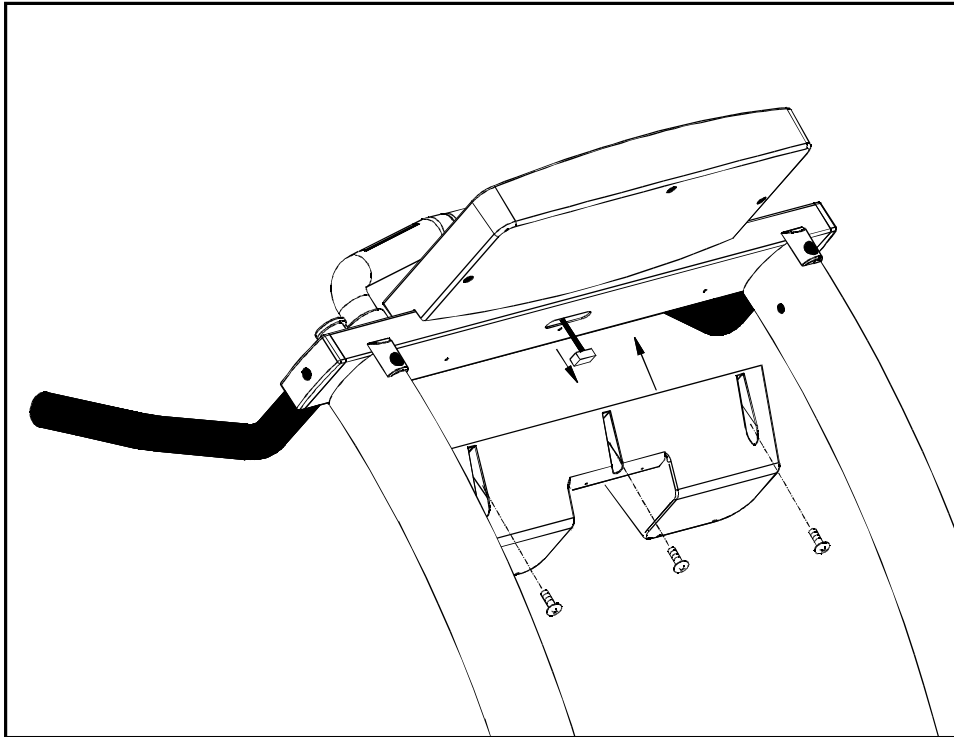

Fig.7
7. Tighten the accessory tray. (see Fig.7)